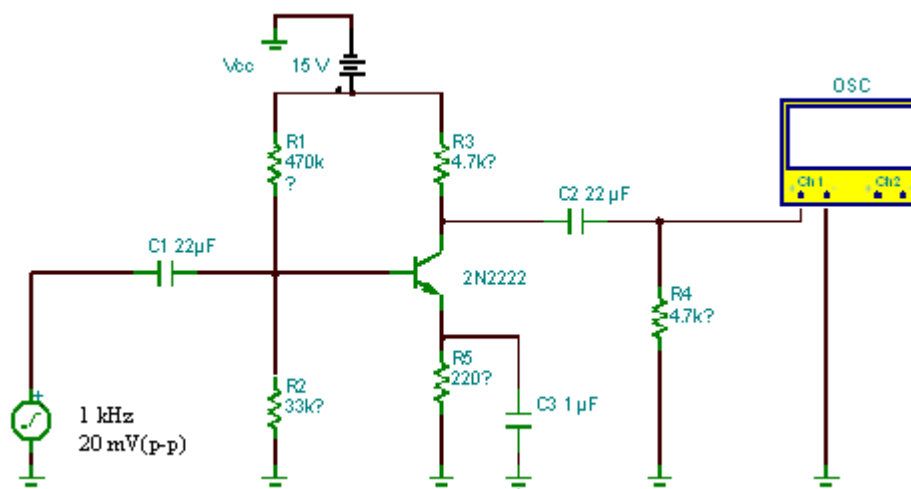

Fig 1.1 Common Emitter amplifier
Draw the DC and AC equivalent circuit for Fig 1.1. Work out the equation for the load line and the operating point. Draw the load line and mark the operating point on it. Analyse the ac circuit and calculate the expression for voltage gain.
1. Assemble the circuit of Fig 1.1